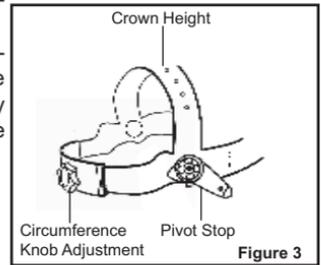

Figure 3
- The headgear has both crown (height) and circumference adjustments. Adjust the crown height via the pin/hole adjustment on the top strap of the headgear. The circumference is easily adjusted by means of a knob located at the back. Push ratchet knob in to make this adjustment as you wear your respirator welding helmet. (See Figure 3)